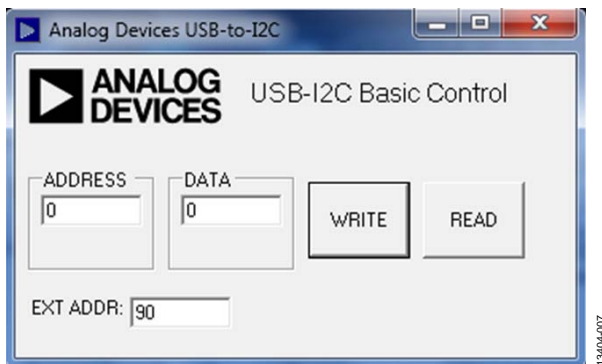

Figure 7. USB-to-I2C Dialog Box
3. Double-click **BasicI2C.exe**, and a dialog box appears as shown in Figure 7.